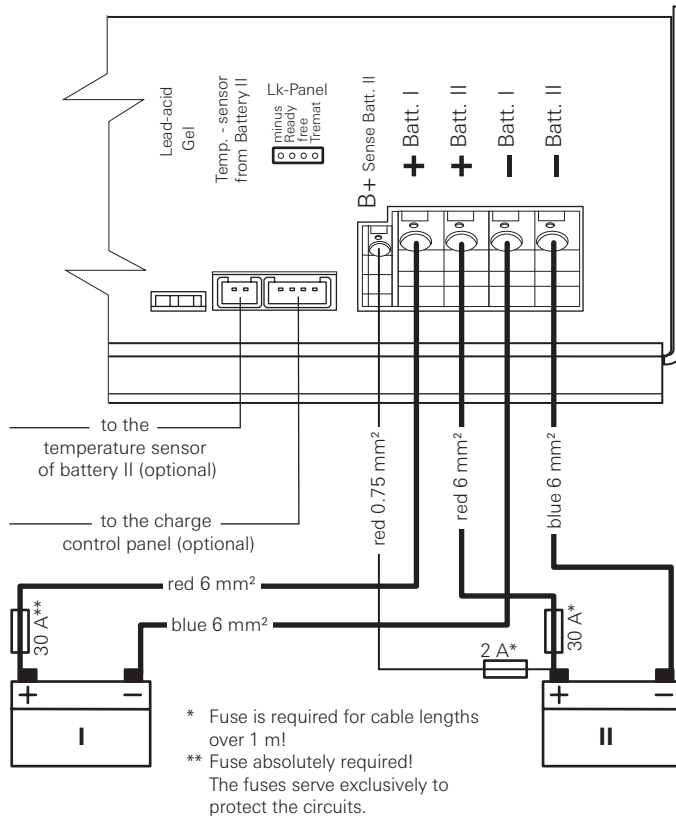

Fig. 3: Connection diagram
- Connect the charger to the supply battery (battery II) in accordance with the connecting diagram (fig. 3). Pay attention to the cable cross-sections and ensure correct polarity.
- Connect the charger to the starter battery (battery I) in accordance with the connection diagram (fig. 3). Pay attention to the cable cross-sections and ensure correct polarity.